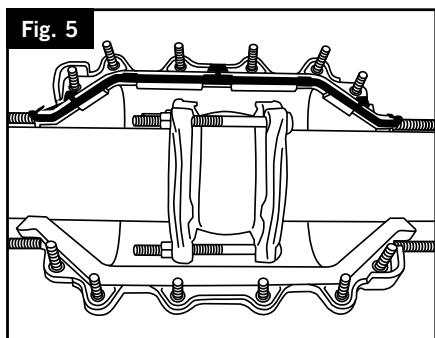

Fig. 5
4) Place one of the clamp shells underneath the leaking joint, you may require packing blocks to hold the underside clamp shell into position. **Please note that the bolts may be positioned in either orientation.** (FIG 5)